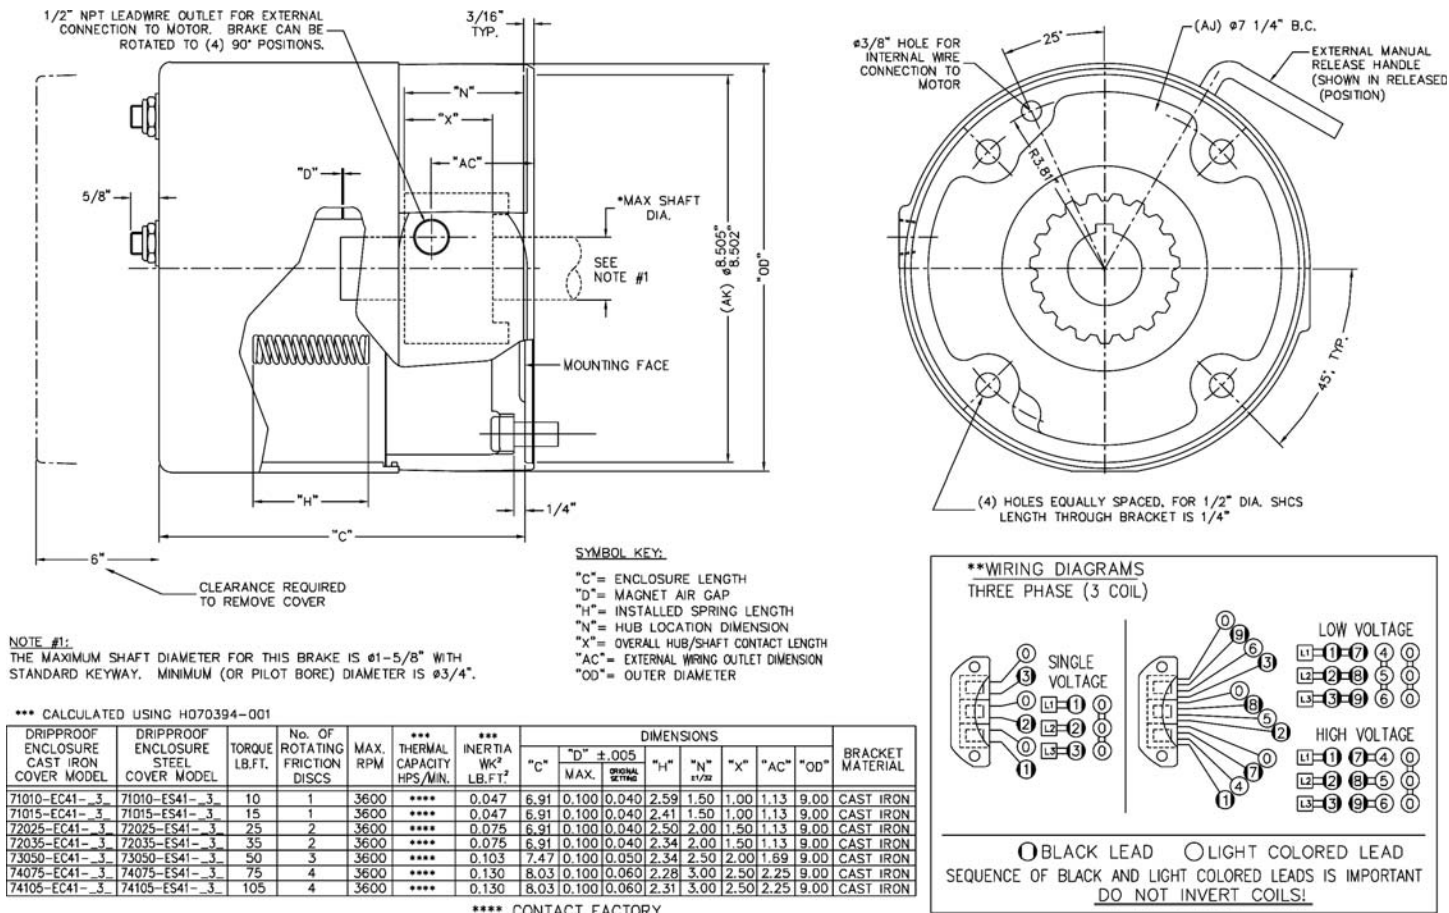

Figure 1 - Brake Outline
(See Figures 1, & 2, Table 1)
1. Remove hub (99) from brake and position on motor shaft with key according to dimension "N" per figure 1. Stamped part number on hub should face away from motor. Tighten hub set screws with 13 lb.ft. torque.
2. Remove temporary cover nut and cover (67). Set cover aside. Discard temporary nut.
4. Bolt brake to motor "C" face with four socket head cap screws. See Figure 1 to help in determining proper bolt length. Final bolt thread pitch, length and mounting torque is dependent on the material and depth of the threaded holes in the mounting face.
5. Connect coil leads per appropriate wiring diagram in Figure 1 and replace cover (67).
6. Use provided nylon locking nuts (71) to secure cover (67).
Before air gap "D" reaches .100", adjustment is required. Any delay in adjusting the magnet air gap will result in eventual loss of torque. Refer to Fig. 1, 2 & 3.
The magnetic disc brake is factory set for rated static torque. The brake can be adjusted to reduce torque which increases stopping time. Do not attempt to adjust brake for higher torque, as this will cause premature coil burnout. (Refer to Fig. 1 & 2)
5. **Re-assembly of electromagnet assembly (15) Refer to Fig. 1 & 2.** Reinstall pressure plate (32) by rotating clockwise to engage both torque spring bolts (28) into slots in brake bracket (1). Replace all nuts, washers, and springs (42, 43, & 44). Nut (44) on the pivot post (17) should be adjusted, so the distance from the bottom of the pressure plate (32) to the top of the brake bracket (1) is 7/16". Reinstall magnet assembly (50A) and install nuts and washers (59, 60, & 61). Nut (61) should be torqued to 20 lb-ft.
7. Reset spring height according to brake model number in Fig.1 from the top of the spring (42) to the bottom of the pressure plate (32).
2. Remove cover locknuts/seals (70 & 71) and cover (67).
4. Replace with new magnet assembly (50A) and install nuts and washers (59, 60, & 61). Nut (61) should be torqued to 20 lb-ft.
5. Place coil lead wires around mounting bracket (1) to the same side as the wire outlet position or internal wire outlet. Connect coil lead wires per Fig. 1.
9. Replace cover (67) and cover locknuts/seals (70 & 71). Tighten nut (71) to 30 lb-in. Reconnect power.